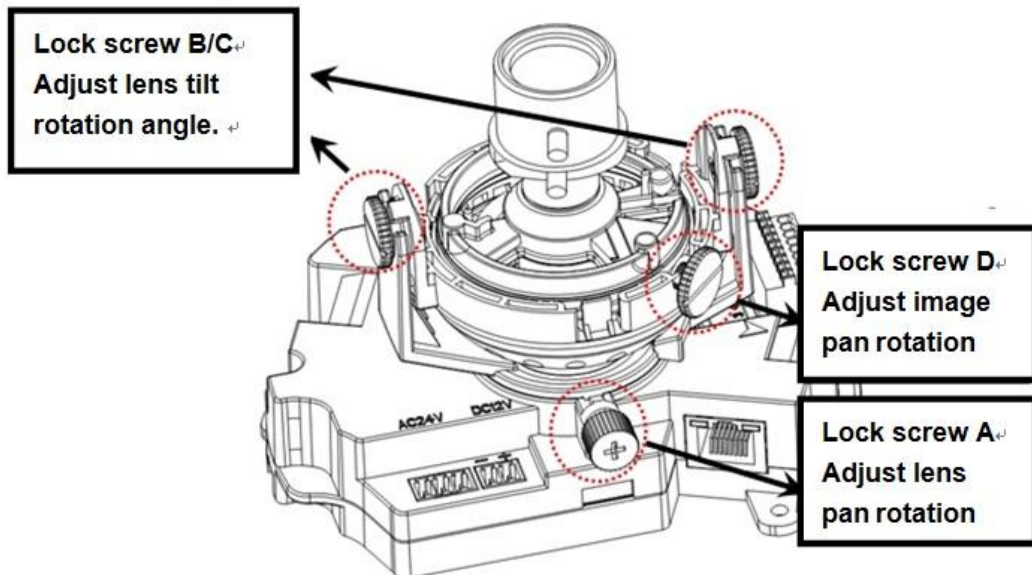

Figure 3-14
b) Lens pan rotation angle setup. Please refer to Figure 3-14 to unfasten the lock screw A and adjust the pan monitor angle to the proper position. Then fix the lock screw A. The pan angle ranges from  $0^{\circ}$ ~ $+350^{\circ}$ .
c). Lens tilt rotation angle. Please refer to Figure 3-14 to unfasten the lock screw B and lock screw C and adjust the tilt monitor angle to the proper position. Then fix the lock screw B and lock screw C. The tilt angle ranges from  $-20^{\circ}$ ~ $+70^{\circ}$ .
d). Image pan rotation angle setup. Please refer to Figure 3-14 to turn lock screw D to adjust the video pan angle. Then fix the lock screw B and C. The video pan angle ranges from  $0^{\circ}$ ~ $+350^{\circ}$ .
**Please note Figure 3-14 is based on the IR motorized zoom camera. For the IR manual zoom camera and non-IR series product, the lock screw position and the lens angle adjustment are the same.**